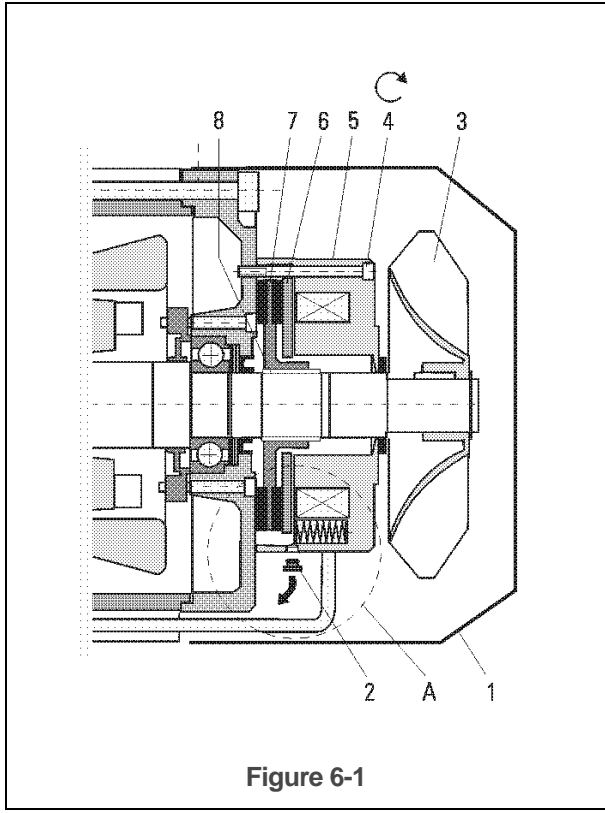

Figure 6-1
The RHN Hoist is equipped with a Counter, located on the face of the RPU Load Monitor Device. This counter registers and displays the total operating hours of the hoist (See Figure 6-1).
- 1) Remove fan cover (1). See **Figure 6-1**.
- 2) Remove plug (2). See **Figure 6-1**.
6.3.4 Brake Rotor Replacement - See **Figure 6-1**.